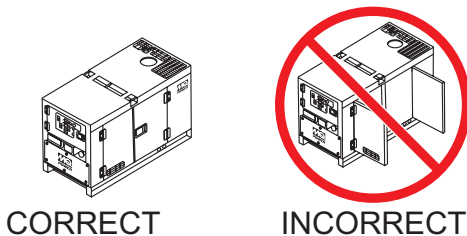

Figure 45. Engine Enclosure Doors
5. Close all engine enclosure doors (Figure 45).